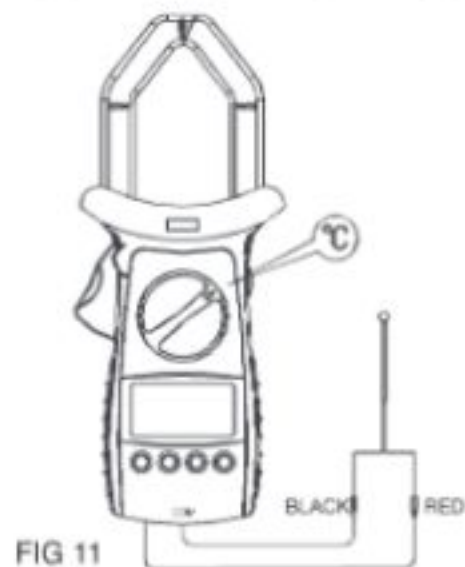

FIG 11
I. Measuring Temperature (UT206, See Figure 11)